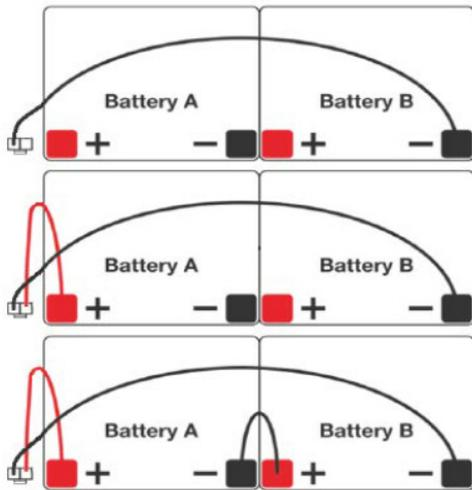

Figure 19: Battery Connection
- Connect the spade connectors of the two wire battery cable and the single wire battery cable as illustrated in Figure 19.